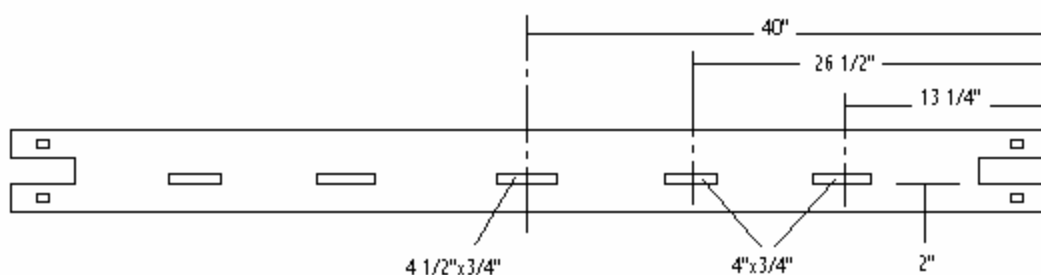

FIGURE 6
5. The notches for the end-rails. To make the mortise holes for the rails, layout the centerlines for each, then layout the holes as in figure 6. Once your holes are drawn, take the board to your drill press and use that 3/4" bit once again to cut a series of holes to remove most of the material, then square them with a sharp chisel. Remember, the center rail is larger and the hole is 4 1/2" long while the others are only 4" long.